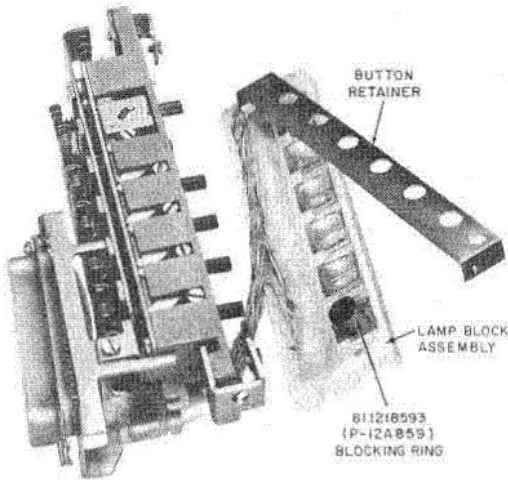

Fig. 11—Blocking Ring Installed in 590 or 650 Series Keys
- (1) Remove lamp block assembly from key (Fig. 11).
- (2) Remove button retainer.